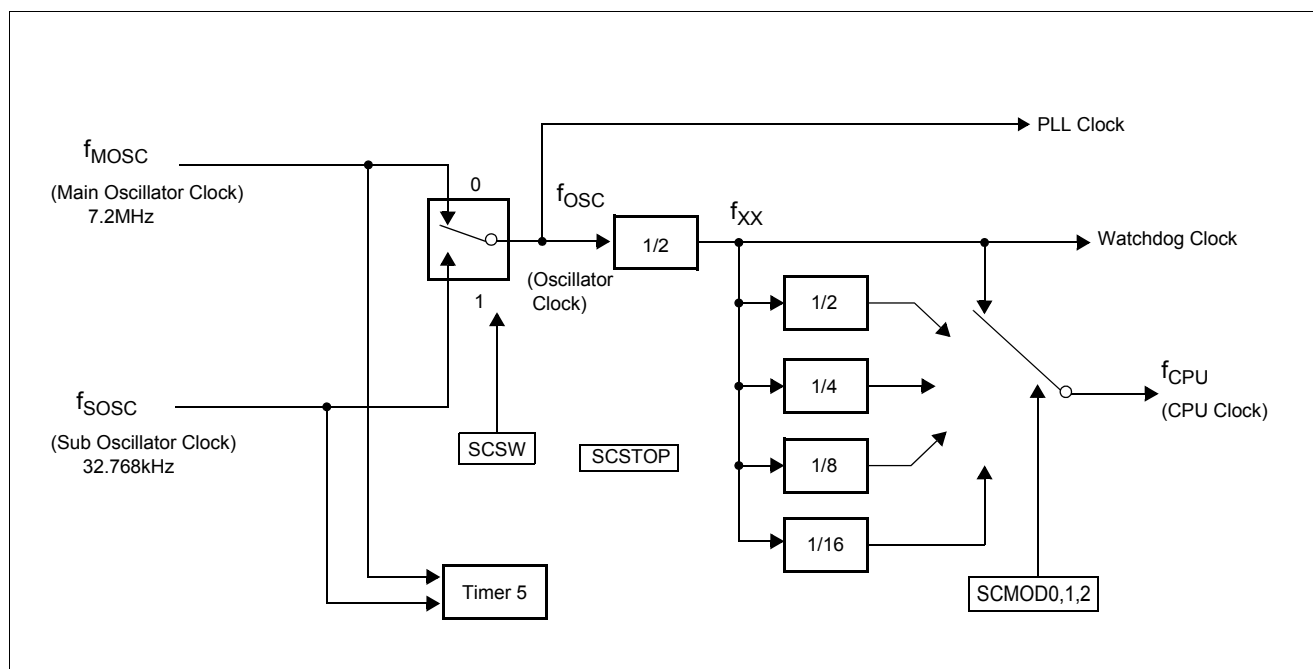

Figure 3-2 System Clock Generation Block
* The f_{CPU} and the f_{SOSC} are shown in Figure 3-2